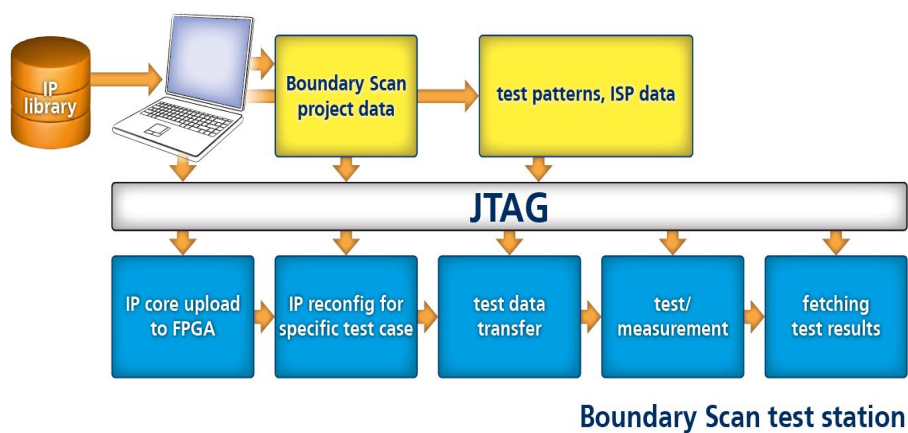

Figure 8 Embedded instruments can be used for design validation and production test.
ChipVORX comes with 300+ pre-configured intellectual property (IP) options and supports all common FPGA platforms for numerous applications such as RAM access test, frequency counter, BERT, or in-system programming of Flash memories. Compared with boundary scan, Flash programming runs up to 75 times faster and the RAM access test can reach a speed-up factor of 20. New IP is also available to support bit-error-rate tests. These instruments don't require synthesis and can be used for design validation (see Figure 8) and production test.